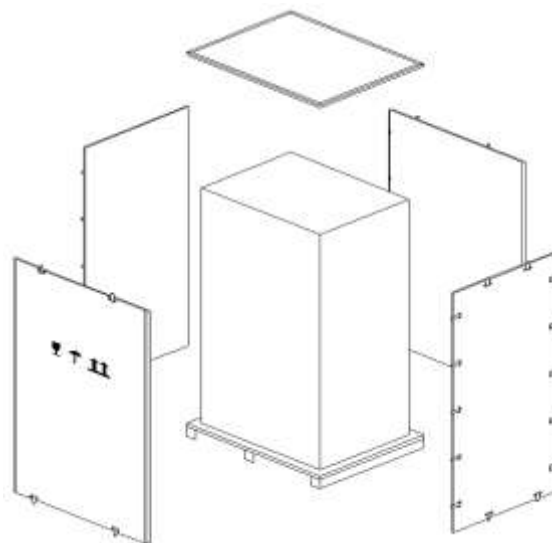

Fig.2-3 Disassemble the case
3. Open the top plate of the steel-edged wooden case with slotted awl and pier, followed by side boards (see Fig.2-3)..